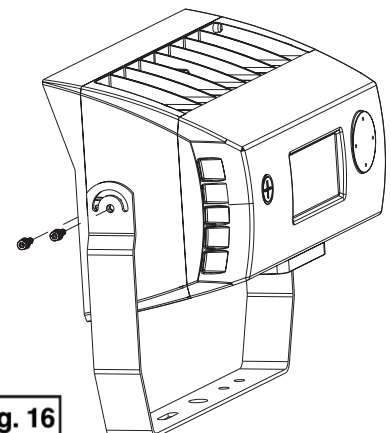

Fig. 16
- 4.) Secure the four (4) bolts and washers included with the yoke mount. (Fig. 16)